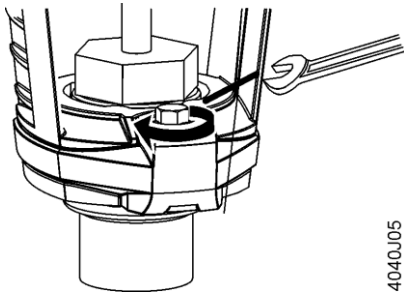

Figure 7.
5. Tighten the U-bracket bolt using a 10 mm wrench (or 4 mm hex wrench) to 5 Nm (44 in-lbs) torque. See Figure 7.